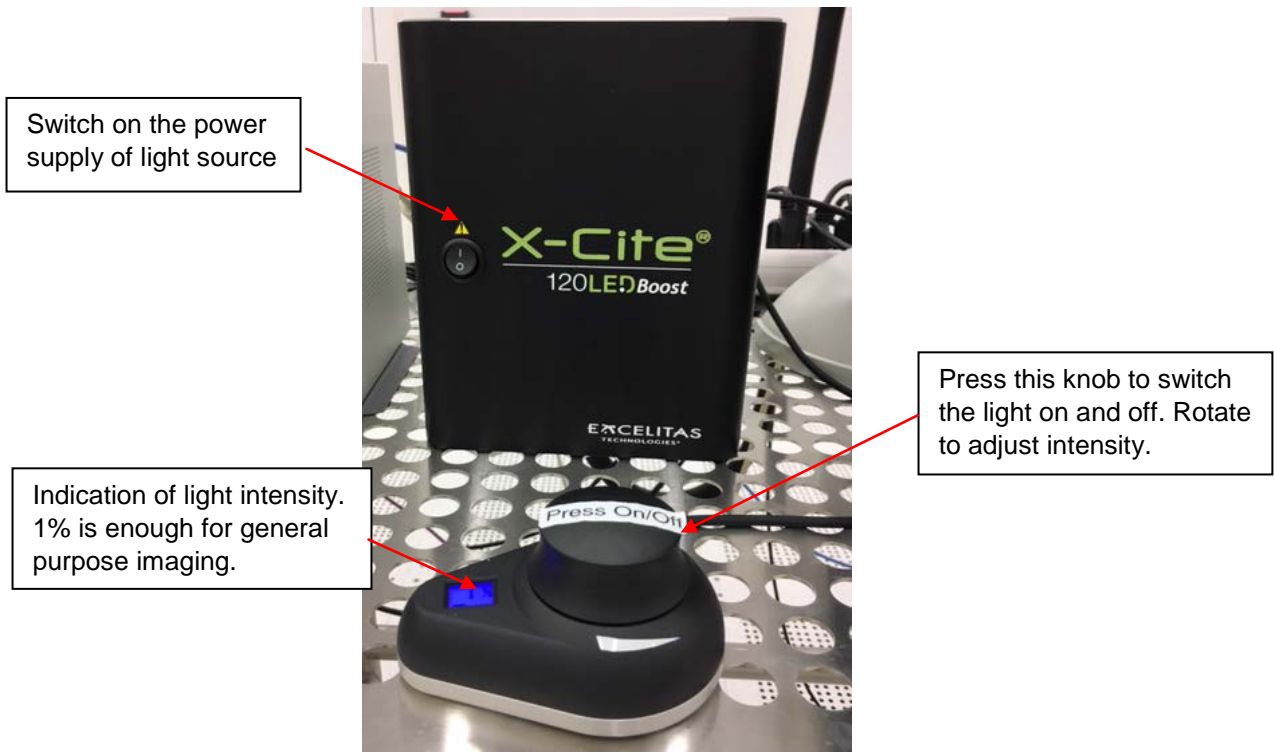

Figure 2: Light intensity control
- 2) Switch on the microscope light (Figure 2).
12) Lower down the sample stage by turning the coarse focus. Turn off the light by pressing the on/off knob in Figure 2. Unload the sample.